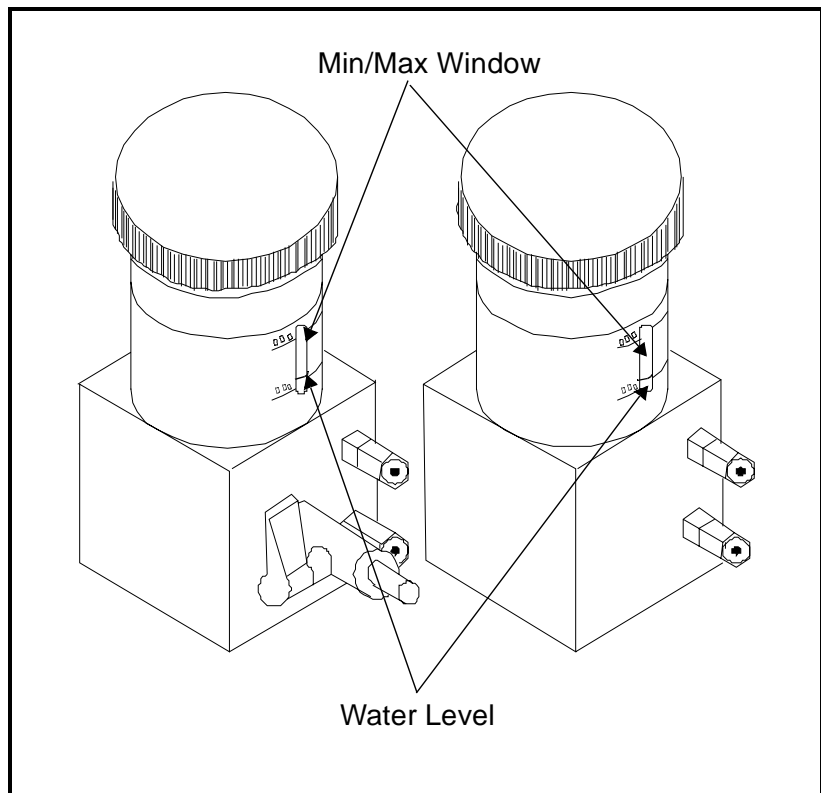

Figure 1-2: Delta F Oxygen Cell Water Level Window
3. Using the min/max window on the oxygen cell, check the water level (see Figure 1-2 on page 1-3). The water should cover about 60% of the window.